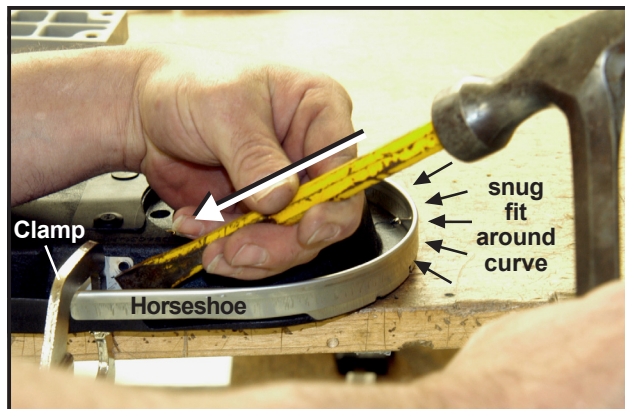

Figure 21
8. Place a chisel at an angle against the clamped mounting ear (*Figure 21*), and tap with a hammer to achieve as snug a fit as possible between the curve of the horseshoe and the end of the Drive Side Plate.